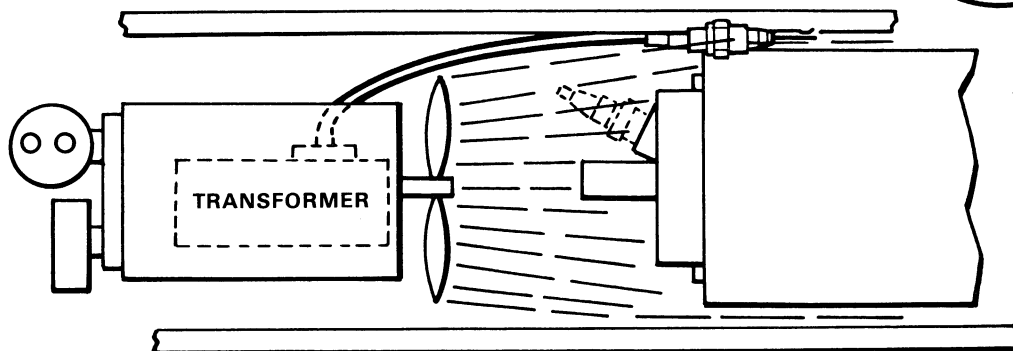

FIG. 13
4. Lay the spark plug on the side of the heater so that the metal portion of the spark plug body (not the electrodes) is touching a non-moving metal part of the heater. (Fig. 13)
11. Finding none of these, the transformer is defective and must be replaced. (Fig. 13)